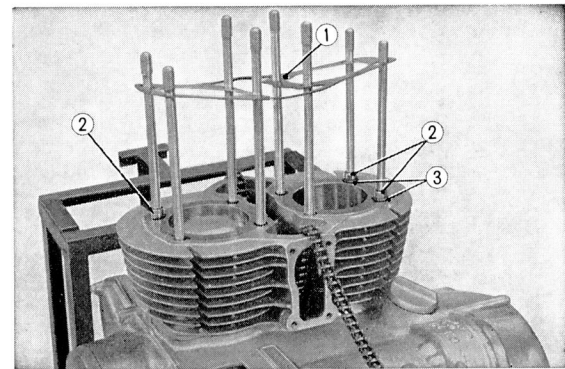

Fig. 3.18 Insurance before reassembling the cylinder parts
1. Insure that the cylinder head gasket, three guide pins, and the two cylinder stud gaskets are properly installed. (Refer to Fig. 3.18)